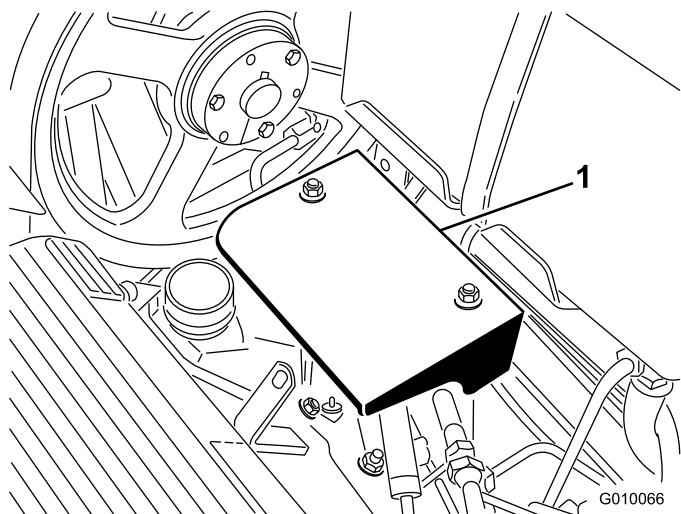

Figure 57
2. Remove the 2 pump shield mounting nuts and remove the shield (Figure 57).